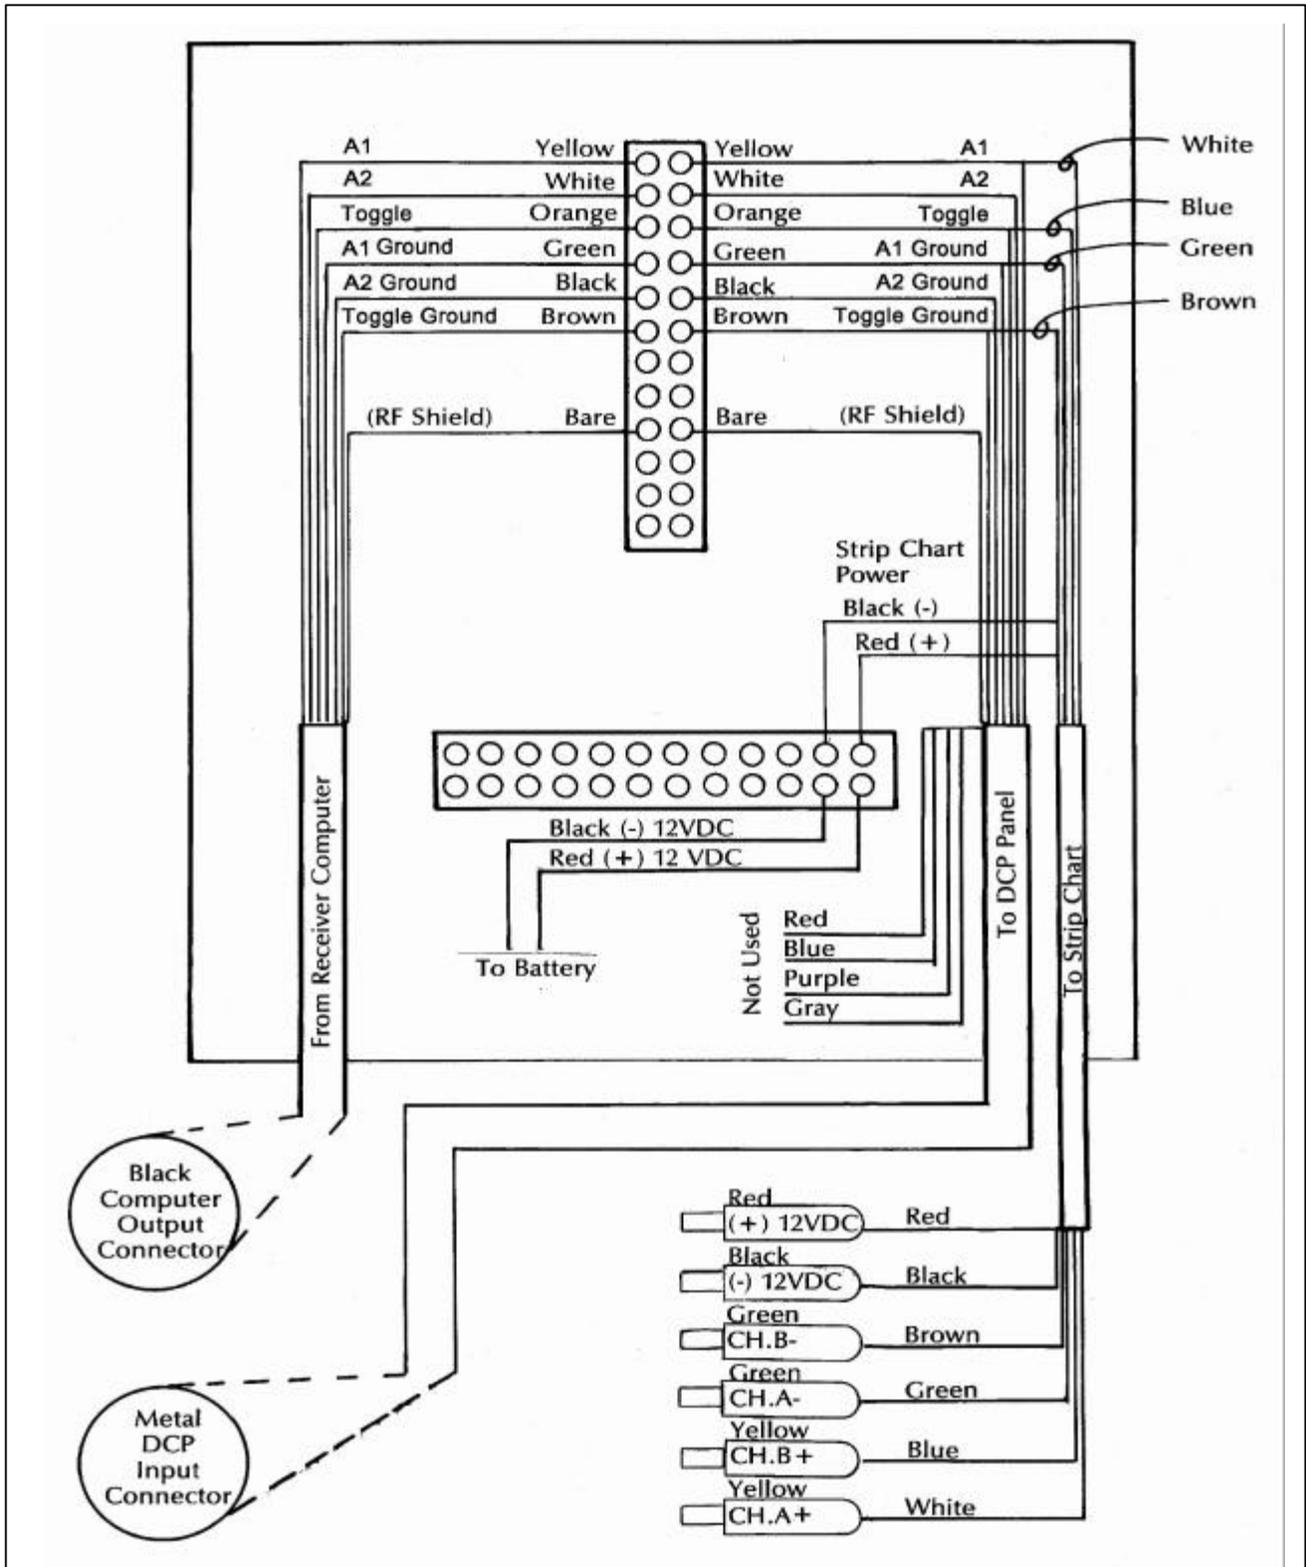

Figure 4-7. Terminal Strip Wiring Diagram.
- Refer to the terminal strip wiring diagram (Figure 4-7).